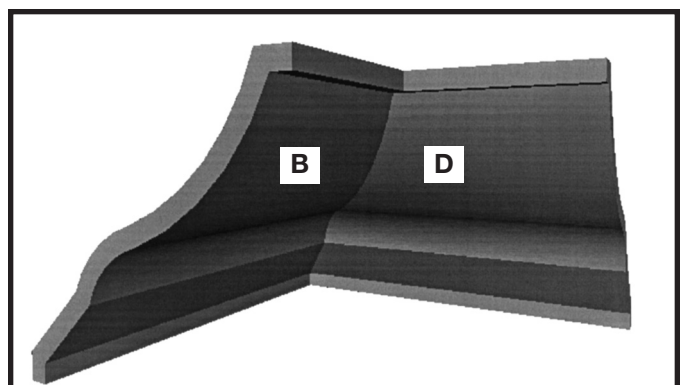

Fig. 46
7. Fig. 46 illustrates the two inside corner pieces.